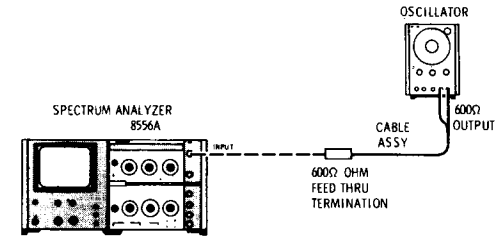

Figure 4-11. Noise Sidebands Test Setup
- Connect equipment as shown in Figure 4-11, connecting the Oscillator to analyzer INPUT through the 600 Ohm Feed Thru Termination.